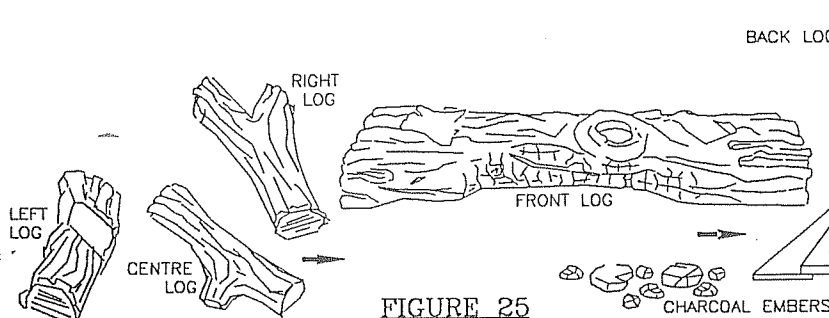

FIGURE 25
2. Place the back log onto the log support bracket located on the rear wall of the combustion chamber. The notch situated at the lower left of the back log should be centered evenly above the pilot assembly. **FIGURE 25.**